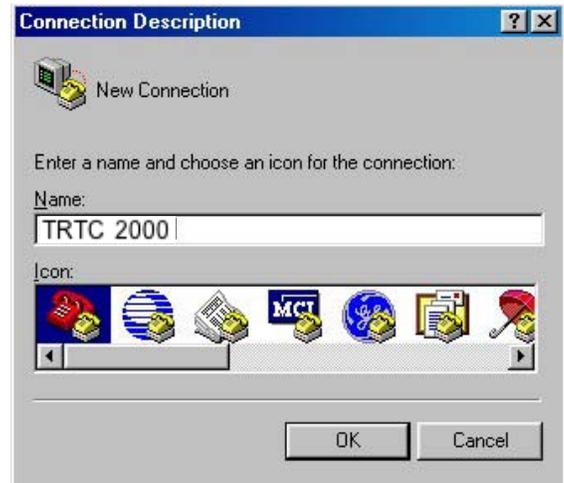

Figure 36
Step 2: The **Connection Description** screen (Figure 36) appears as shown. Enter a name and icon for your unit and click **OK**.